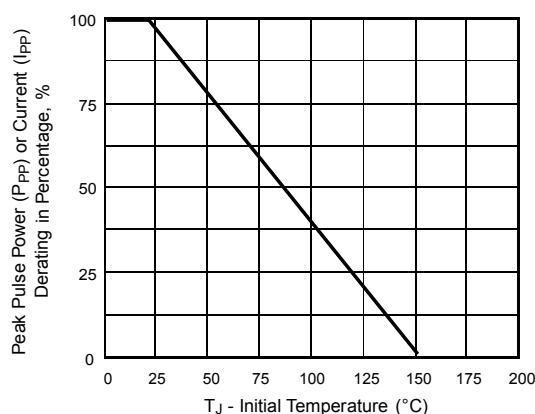
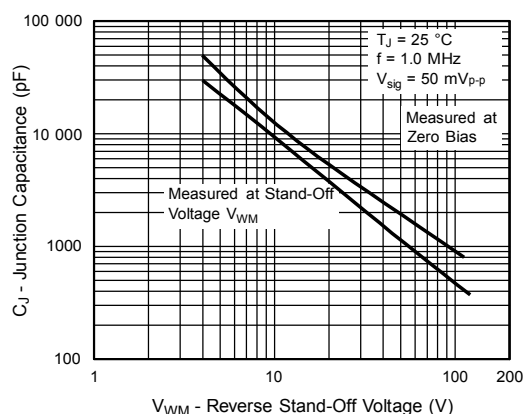

Fig. 3 - Pulse Power or Current vs. Initial Junction Temperature
Fig. 4 - Typical Junction Capacitance
1. Non-repetitive current pulse, per Fig. 4 and derated above T_J(initial)=25 °C per Fig. 3.